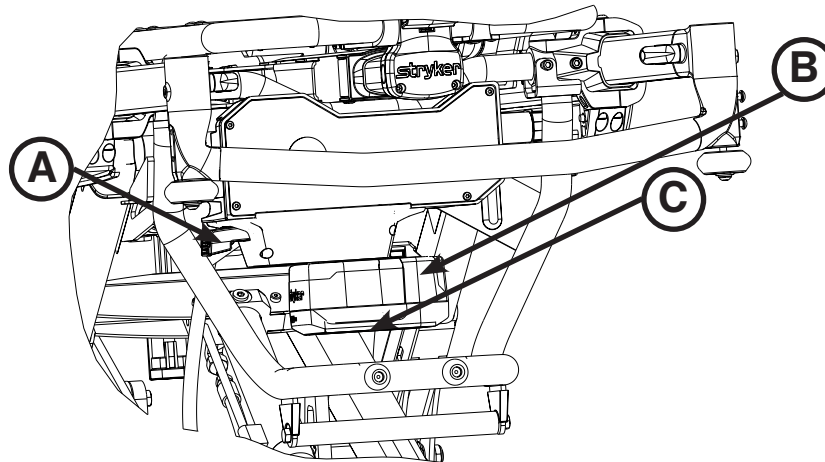

Figure 16: SMRT Pak Removal and Replacement
1. Press the RED one hand release button (C) or press the battery release button (A) to release the SMRT Pak (B) from the cot as shown in Figure 16.